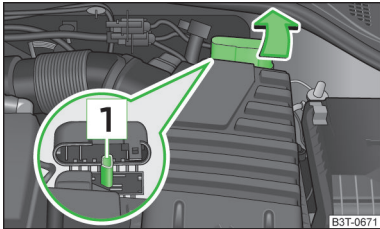

Fig. 184
On vehicles with the vehicle battery in the boot, the positive terminal of the battery supplying the power can only be connected to the jump-starting point in the engine compartment of the vehicle being started by means of a jump-start cable » Fig. 184.
- › Open the protective cap of the jump-starting point in the direction of the arrow » Fig. 184.